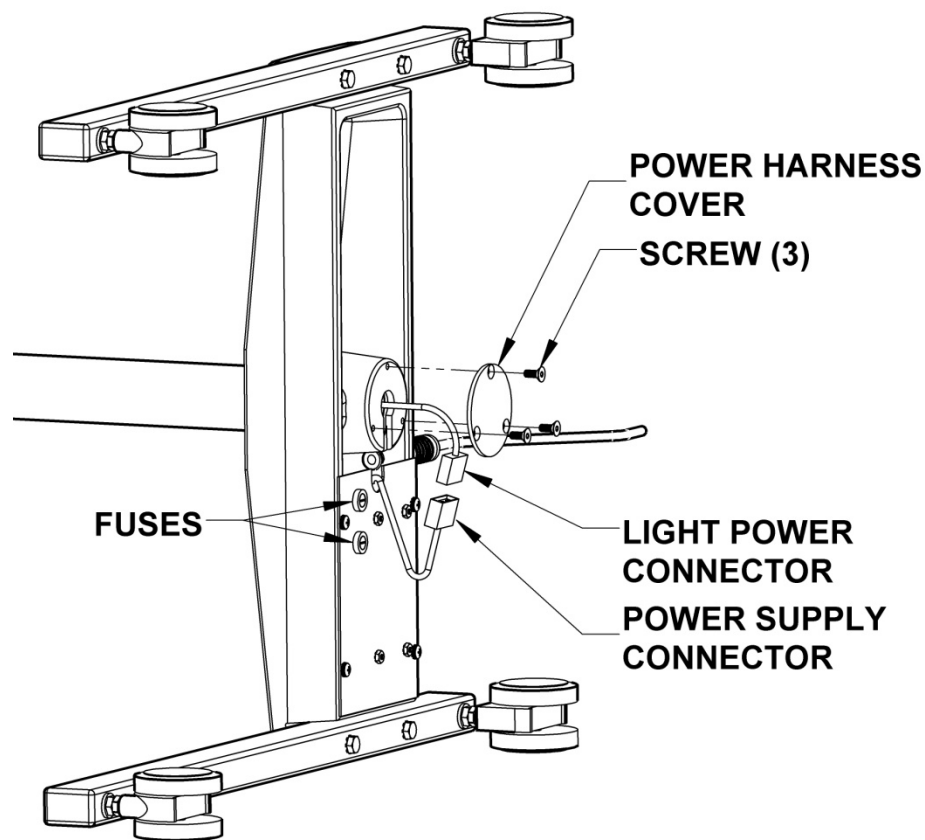

Figure 18: Floor Stand Electrical Connection
Connect the wires as shown and install the power harness cover with three (3) screws as shown in figure 18. Make sure wires are routed to avoid pinching.